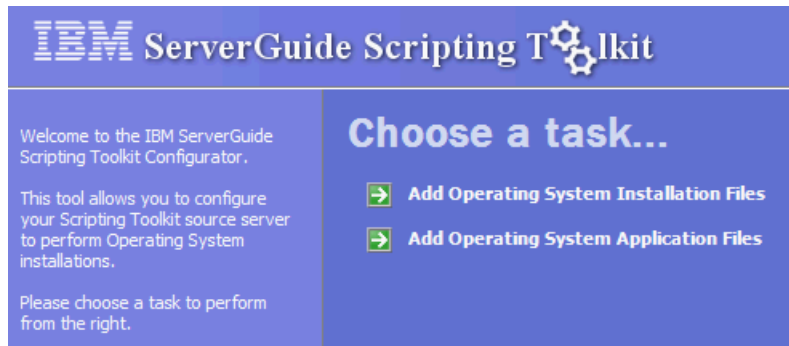

Figure 8-44 IBM ServerGuide Scripting Tool window
- b. Select **Add Operating System Installation Files**, as shown in Figure 8-44.